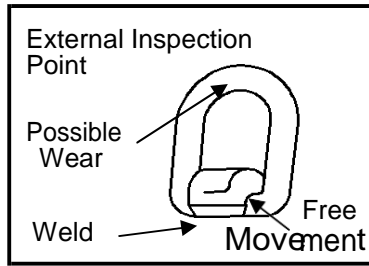

Figure 3
- Regularly inspect weld-on lifting point parts (Figure 3).